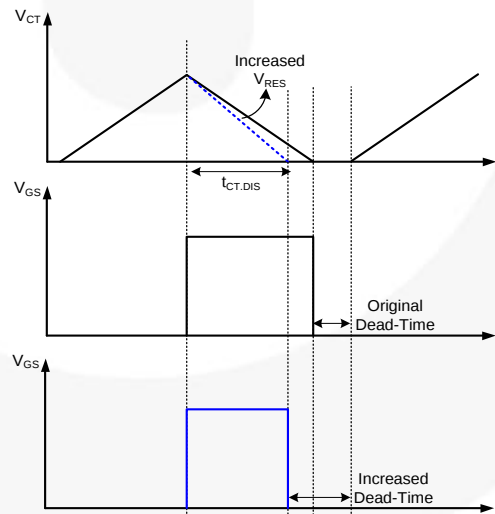

Figure 5. Increase SR Dead-Time
In contrast, if SR dead-time is too small, it is suggested to decrease R_3 or increase R_4 . Either way, V_{RES} is increased and the discharge time of C_T capacitor ($t_{CT.DIS}$) is reduced to increase the dead-time, as shown in Figure 5. However, note that (15) must be satisfied when increasing V_{RES} .